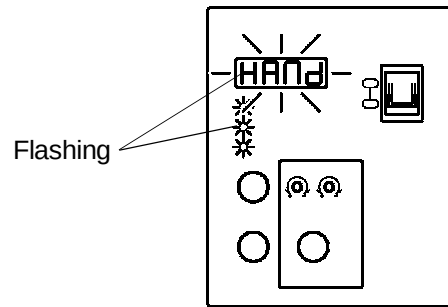

Fig. 33
- 12) Press the Flush Button once. The Display Window will flash the current operation mode (factory setting: "SFt.H"). The operation mode can be set now. See Fig. 33.